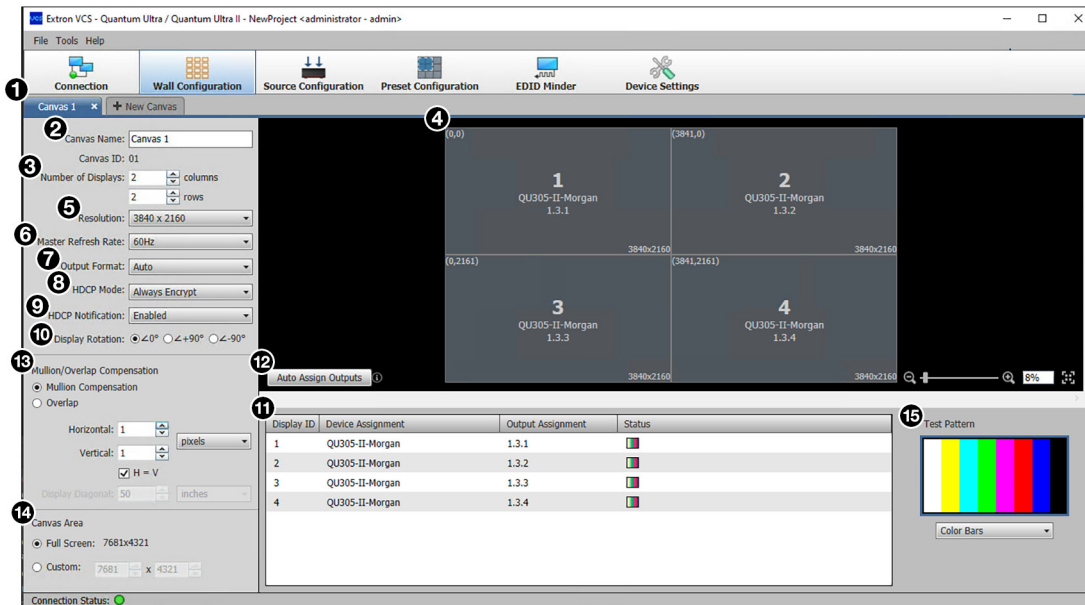

Figure 4. Wall Configuration Window
Click the **Wall Configuration** button (shown at right) to configure the outputs and to select the output channels on the Quantum Ultra Series device for the videowall. The Wall Configuration window opens, providing a Canvas to set up the wall (see figure 4).
2. **Select the number of displays.** In the spin boxes labeled Number of Displays (3), select or enter the number of displays for the columns and the rows of the videowall. In the example in figure 4 on the next page, the wall has two columns by two rows (4).
- **Output format (7)** — From this drop-down list, select the output format (**AUTO**, **DVI RGB 444**, or **HDMI RGB 444**). The default is **Auto**.
- **HDCP Mode** (see figure 4, 8 on page 7) — From this drop-down list, select how to manage HDCP encryption on the outputs. You can select to always encrypt the output (default), to never encrypt the output, or to try to encrypt the output for 1 minute, then revert to an unencrypted state (not allowing display of HDCP encrypted sources if authentication with the sink device fails).
- **HDCP Notification** (9) — From this drop-down list, select to enable or disable a green screen notification when the input signal contains HDCP-protected content and the outputs cannot be encrypted.
- **Display Rotation** (10) — In this panel, select the radio button for the angle at which the displays physically rotate: **+90°** (90 degrees clockwise), **-90°** (90 degrees counterclockwise) or **0°** (no rotation). The example at right shows a videowall that has four rotated displays.